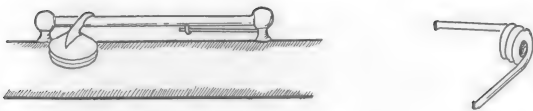

Figure 3 (above): Springs to return tonehole keys to their default positions.
**Springs:** Whatever the design, some sort of spring must be in place to return the key to default position when it's released. Very stiff springs improve the seal on default-closed holes, but they make the playing action more difficult. The ideal is to use a moderately soft spring with perfect key alignment for a leakless seal. Commercial woodwinds usually use needle springs -- straight sections of spring-tempered steel wire (music wire), typically about an inch long, rigidly mounted at one end, with the other end pressing against a catch somewhere on the key lever to push it in the desired direction (see Figure 3 A). You may come up with a design in which coil springs do the trick, or one which uses clothespin-style springs (Figure 3 B and 4 C). For default-open keys, you may be able to make the spring and the arm which holds the key over the hole one and the same, as in Figure 4 A. A less elegant but very workable approach is to use some sort of elastic banding to pull the key lever back one way or the other, as in Figure 4 E and F. If you do this, don't use rubber bands. Left under tension, they deteriorate rapidly. Use elastic cord or strap such as are sold at fabric stores, with many rounds of elastic under light tension rather than fewer rounds under high tension.
**Fulcrums and Pivoting Mechanisms:** Many key designs use some sort of lever arrangement. Commercially manufactured woodwinds make extensive use of long pivoting rods, similar in concept to that shown in figure 3 A. This and other arrangements are not hard to design, but to make such tiny but strong metal components with the required degree of precision is a daunting task for anyone other than a skilled machinist with a full complement of tools. So is the attachment of such mechanisms to the instrument tube as firmly as the situation demands. Figure 4 A - F shows some possible key lever designs in rougher, more homemade sort of style. If you're a real tinkerer and junk collector, you may be able to scrounge some workable key lever hardware components from old instruments or other small mechanical items.
**Compound Actions:** On many commercially manufactured woodwinds, the keying actions are mind-bogglingly complex. They're designed so that a single action of the player's finger results in multiple tonehole actions up and down the instrument -- press down one key, and several different holes open or close. Long pivoting rod actions like that shown in Figure 3 A work well in applications like this, because you can arrange for arms extending out from different points along the pivot rod to fulfill various functions. Once again, while it might be an enjoyably challenging exercise to design complex actions like this on paper, the job of building one from scratch is a lot to ask of anyone but a skilled machinist in a well-equipped shop. You've got to admire the manufacturers who produce such fine mechanisms within the narrow tolerances called for.